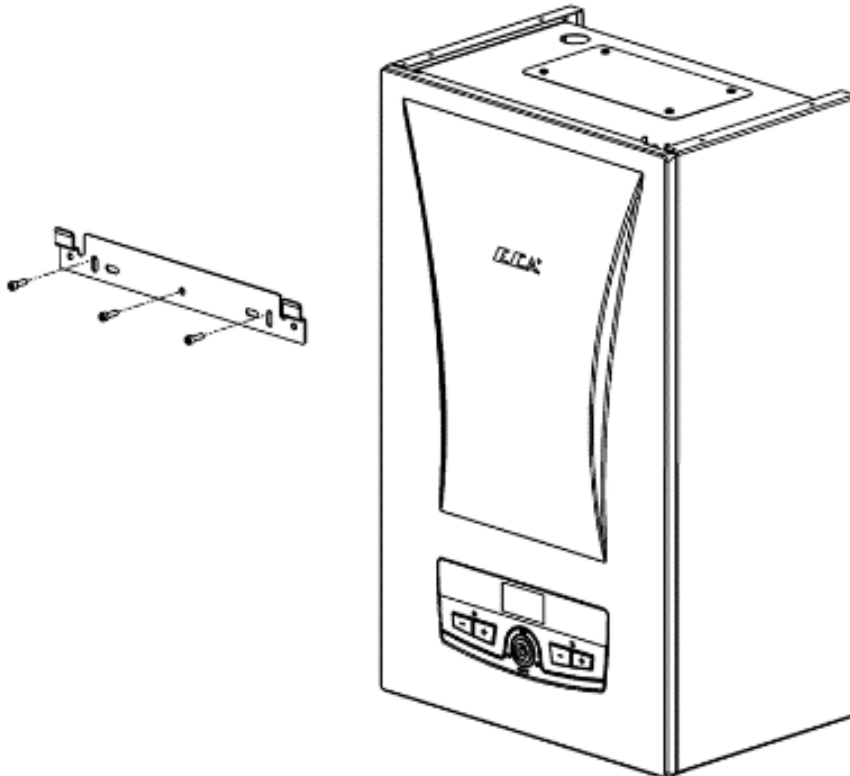

Figure 13. Boiler & Wall Hanging Bracket
- ✓ It is not recommended to install "Isolating Valve Cover" (figure 13-No 1) to the boiler if kitchen cupboard is used for installation place. It can be used at open space areas to hide valve set and filling loop.